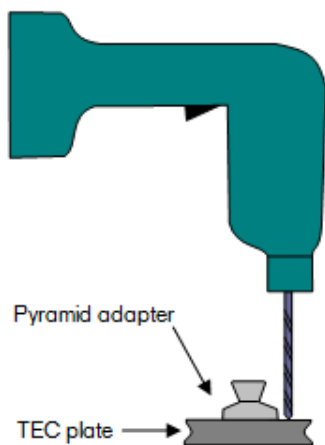

Figure 1
- 1) TEC plate preparation: Drill a 7/32" hole (5.5mm) through plate (see Fig. 1) ensuring not to go through side groove of plate.